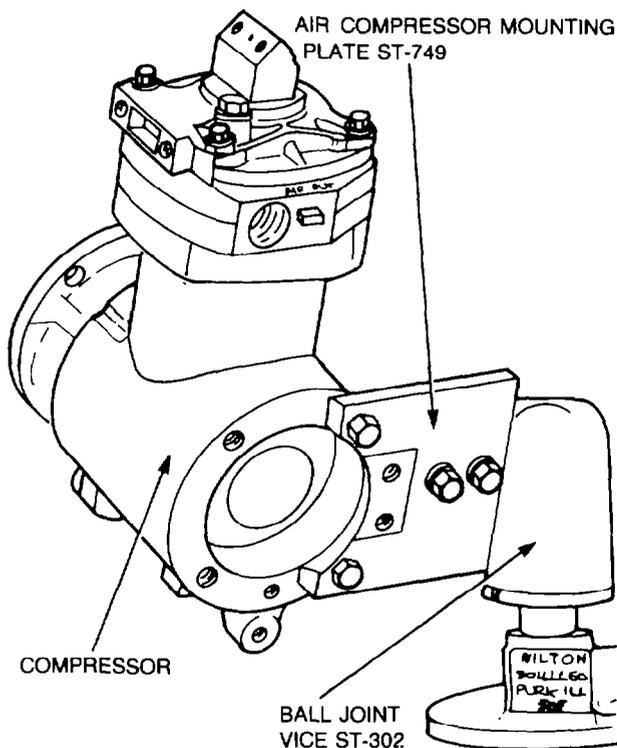

Figure 227 — Compressor on Mounting Plate
- b. Attach the air compressor mounting plate ST-749 to the ball joint vice ST-302, then mount the air compressor on the mounting plate ST-749 as shown in Fig. 227.